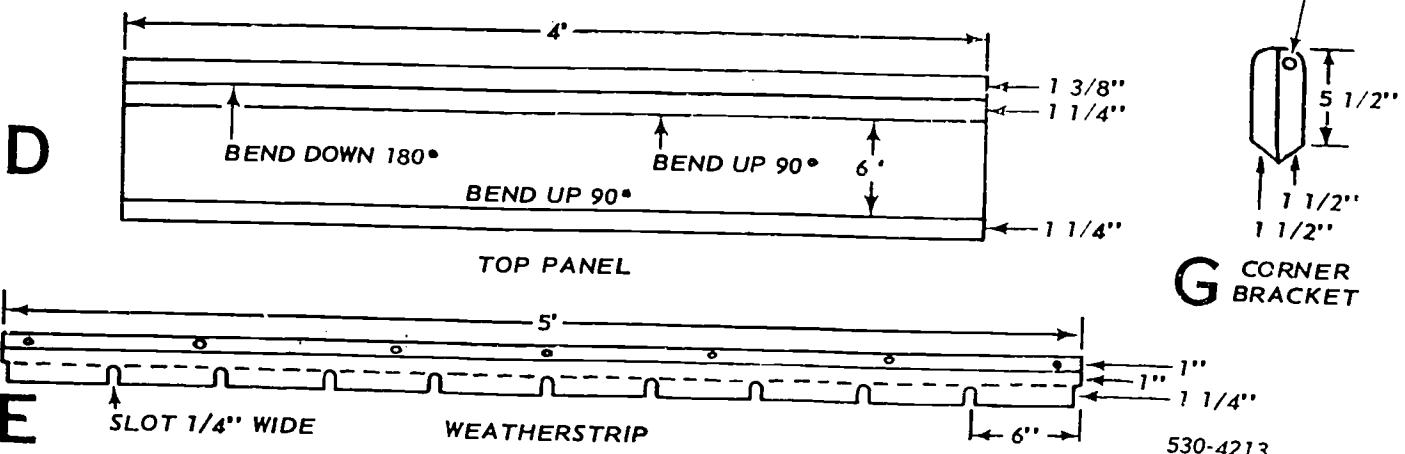

Figure 2-4. Patterns for a metal canopy supported by hangers.
**Pattern Layout.** The shape of the back trim is shown in the detail view at the left side in figure 2-3. Pattern layout for the canopy involves developing patterns like the ones shown in figure 2-4. The back trim pattern in view A is made 9 inches wide plus allowance for a  $\frac{1}{2}$ -inch hem.
The two side patterns (view B of fig. 2-4) are developed so that the face of the trim will be 6 inches wide at the back and 4 inches wide at the front. Notice that each end has 1 inch for the corner lap seams. The bottom edge has an allowance for a  $\frac{1}{2}$ -inch hem, and the top edge has an allowance for the pocket of a  $1\frac{1}{4}$ -inch standing seam.
The front trim pattern shown in view C of figure 2-4 has a face 4 inches wide, and allowances for a  $\frac{1}{2}$ -inch hem on the bottom edge and 1 inch on the top edge, for fastening to the top panels.
The pattern for the nine top panels in view D of figure 2-4 is 6 inches wide, plus allowances for the pocket of a  $1\frac{1}{4}$ -inch standing seam on one edge and the flange for a  $1\frac{1}{4}$ -inch standing seam on the other edge. Notice the instructions with the patterns.
The weatherstrip in view E of figure 2-4 is made into
a Z-shape that measures  $1'' \times 1'' \times 1\frac{1}{4}''$ , and is 5 feet long. The  $1\frac{1}{4}$ -inch allowance has slots  $\frac{1}{4}$ -inch wide and  $1\frac{1}{4}$ -inches long, cut at 6-inch intervals. The wall plate (view F of fig. 2-4) is 4 inches square and  $\frac{1}{4}$  inch thick. It has an eye (a loop) to receive the hook-shaped end of the hanger rod. The eye is welded to the plate, and four  $5/16$ -inch screw holes are drilled for  $\frac{1}{4}$ -inch screws. The corner brackets (G in fig. 2-4) are made of  $\frac{1}{8}'' \times 1\frac{1}{2}'' \times 1\frac{1}{2}''$  angle iron, 5 inches long, with a  $\frac{3}{8}$ -inch hole for the  $\frac{1}{4}$ -inch hanger rod.
**Cutting and Notching.** You can cut and notch patterns A through D (fig. 2-4) on the squaring shears and with straight cut snips. Cut pattern E with the squaring shears, and notch it with straight snips; make the slots by using the rotary punch and the straight snips.
The corner brackets and wall plates (view G and F of fig. 2-4) are made in the shop. The straight cuts are made with the horizontal bandsaw, power hacksaw, or hand hacksaw. The rounded end of the corner bracket is cut on the throatless shears, and is filed smooth; then the holes are drilled. The  $\frac{3}{8}$ -inch hole should be drilled at least  $1\frac{1}{4}$  inches from the top edge. Remember to make two wall plates, and right and left corner brackets. The eye of the wall plate is made by welding a piece of  $\frac{1}{4}$ -inch rod (bent into a U-shape) to the plate. The eye should be approximately 1 inch in diameter.
Once the screws are removed, slip the old panel out of the standing seams. Make a replacement panel like the one shown in view D of figure 2-4. Place the new panel into position and connect the standing seams. After the new panel is in place, drill the holes for fastening to the flanges of the back and front trim pieces. Replace the rivets that were drilled out of the standing seam. Since the weatherstrip has been removed, remove the old caulk and apply new caulk. Then position and refasten the weatherstrip to the wall.